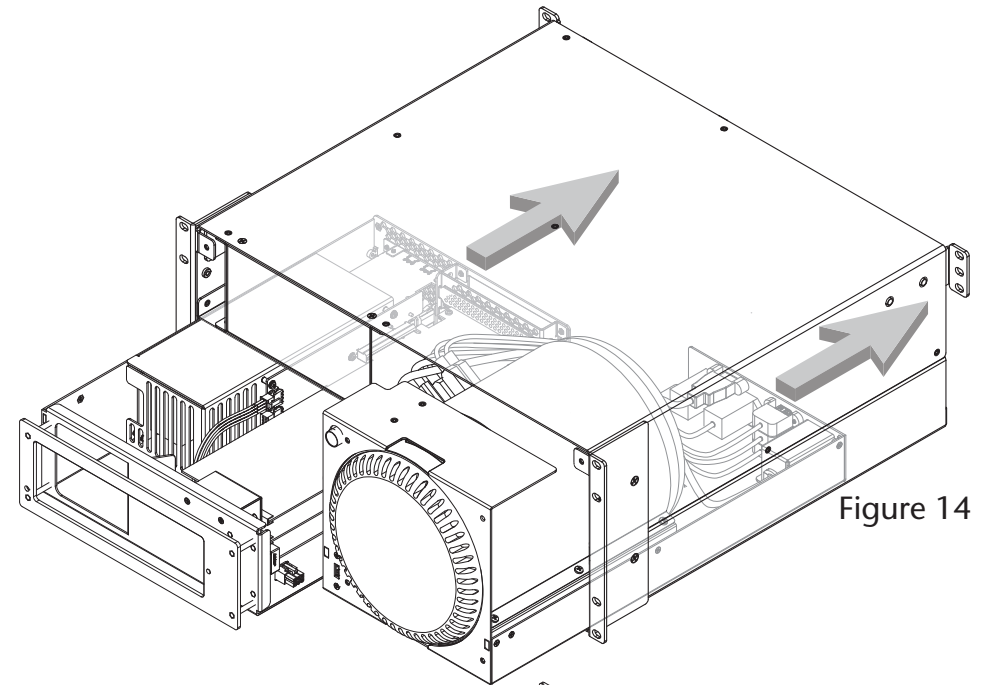

Figure 14
1. Carefully slide the computer mounting module into the xMac Pro Server's rackmount enclosure until it stops (**Figure 14**).
2. Carefully slide the PCIe card expansion module into the rackmount enclosure until it stops (**Figure 14**).